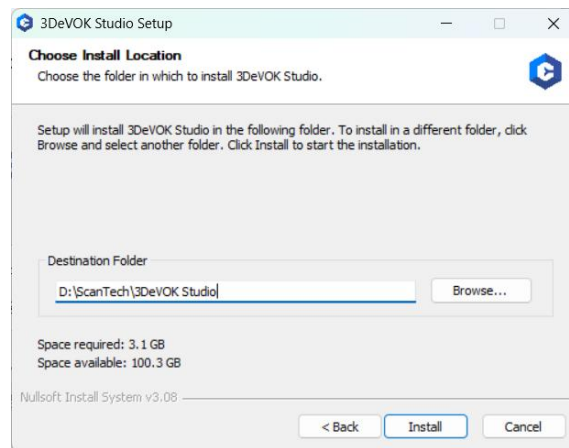

Figure 4-4 Select Destination Folder
2. Select the destination folder and click "Install", as shown in Figure 4-4.